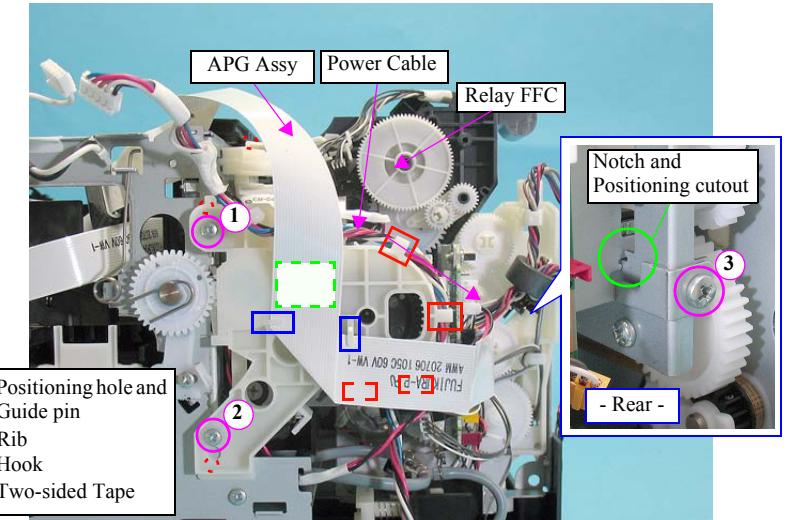

Figure 4-122. Removing the APG Assy (2)
- Tighten the screws in the order indicated in Figure 4-122.
- When installing the APG Assy, insert the two guide pins of the APG Assy into the positioning holes of the Main Frame as shown in Figure 4-122.
- When installing the APG Assy, attach the notch of the APG Assy to the positioning cutout of the Main Frame as shown in Figure 4-122.